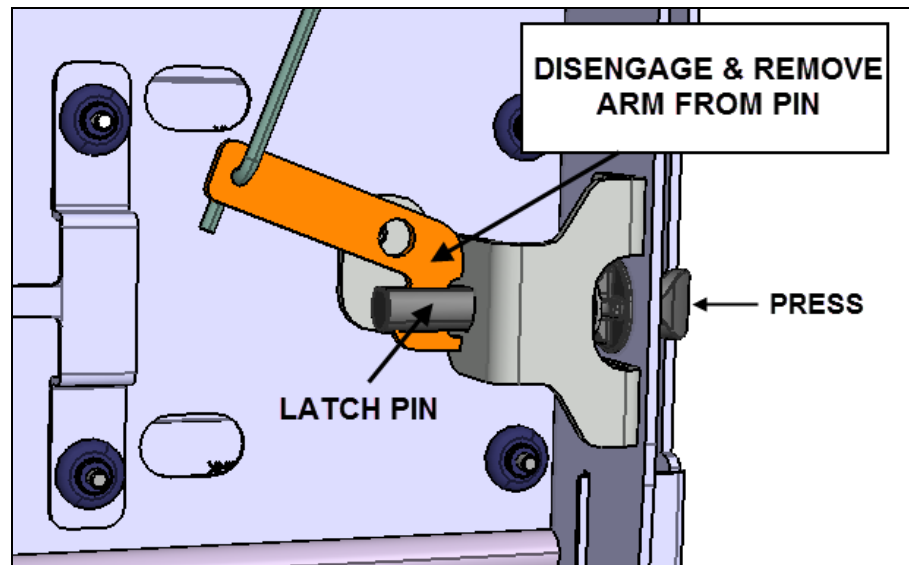

FIG.20 REMOVING ACTUATING ARM
18. Apply slight pressure to the latch pin tip and disengage the actuating arm from the pin (and actuating rod as req.) (Fig.20)